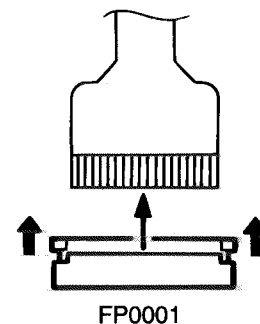

Fig. 8
3. Disconnect the harness from connector FP0001 on the pickup control board, and card wire from connector FP0003, the harnesses from P0004 and P0005 respectively (To disconnect FP0001, open the lock as shown in Fig.8.).